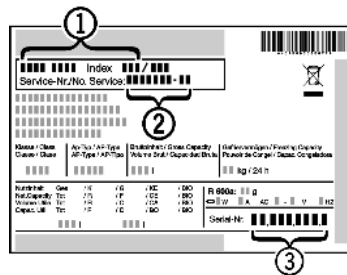

Fig. 7
- ▶ Read the appliance designation *Fig. 7 (1)*, service No. *Fig. 7 (2)* and serial No. *Fig. 7 (3)* off the type plate located inside the appliance on the left-hand side.
- ▶ Notify the customer service, specifying the fault, appliance designation *Fig. 7 (1)*, service No. *Fig. 7 (2)* and serial No. *Fig. 7 (3)*.